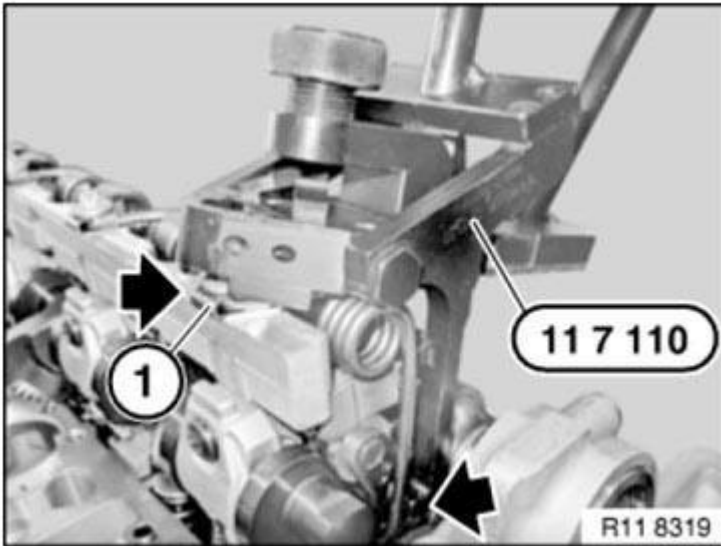

Fig. 636: Positioning Special Tool (11 7 110) On Return Spring
Position special tool 11 7 110 on return spring (1) (see arrows in **Fig. 636**).